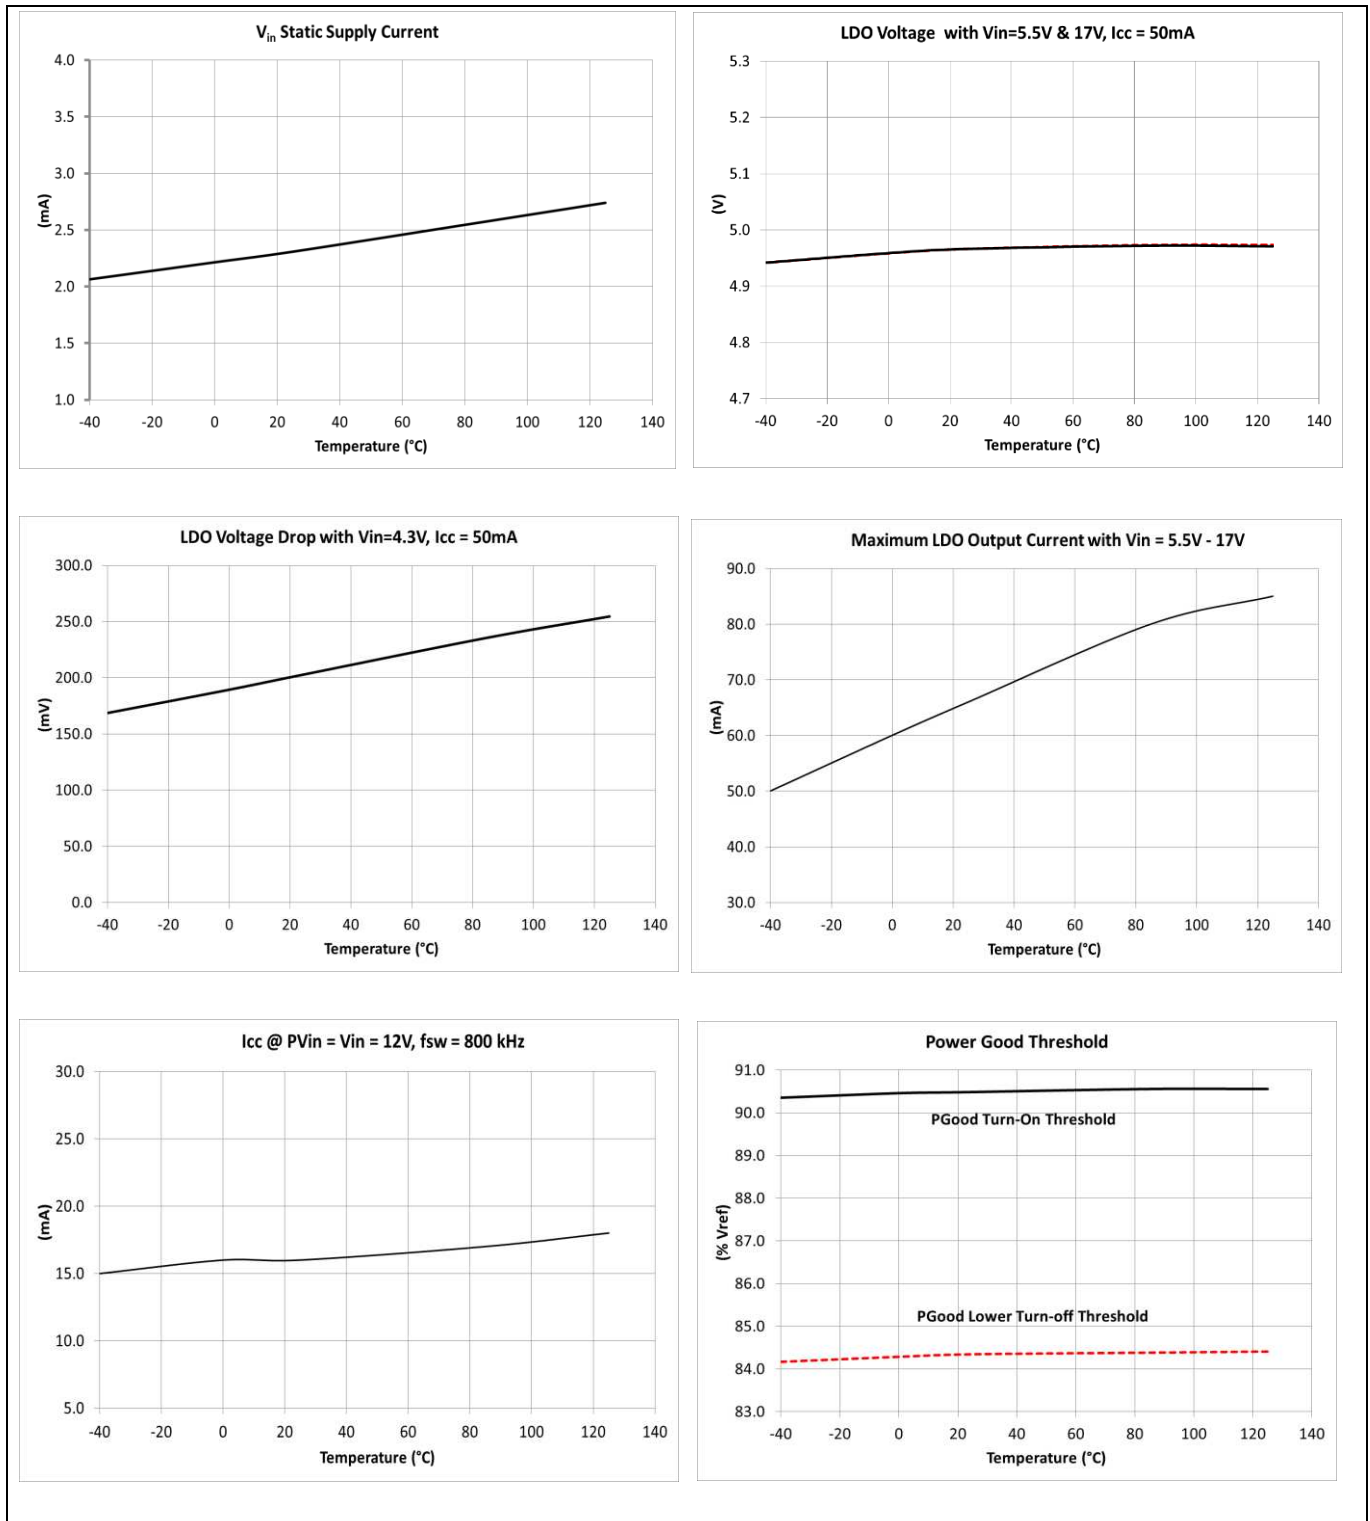

Figure 6 Typical operating characteristics (set 1 of 2)
10. The maximum LDO output current must be limited within 50 mA for operations requiring full operating temperature range of -40 °C ≤ TJ ≤ 125 °C. Figure 6 shows the maximum LDO output current capability over junction temperature. Thermal de-rating may be needed at an elevated ambient temperature to ensure the junction temperature within the recommended operating range.